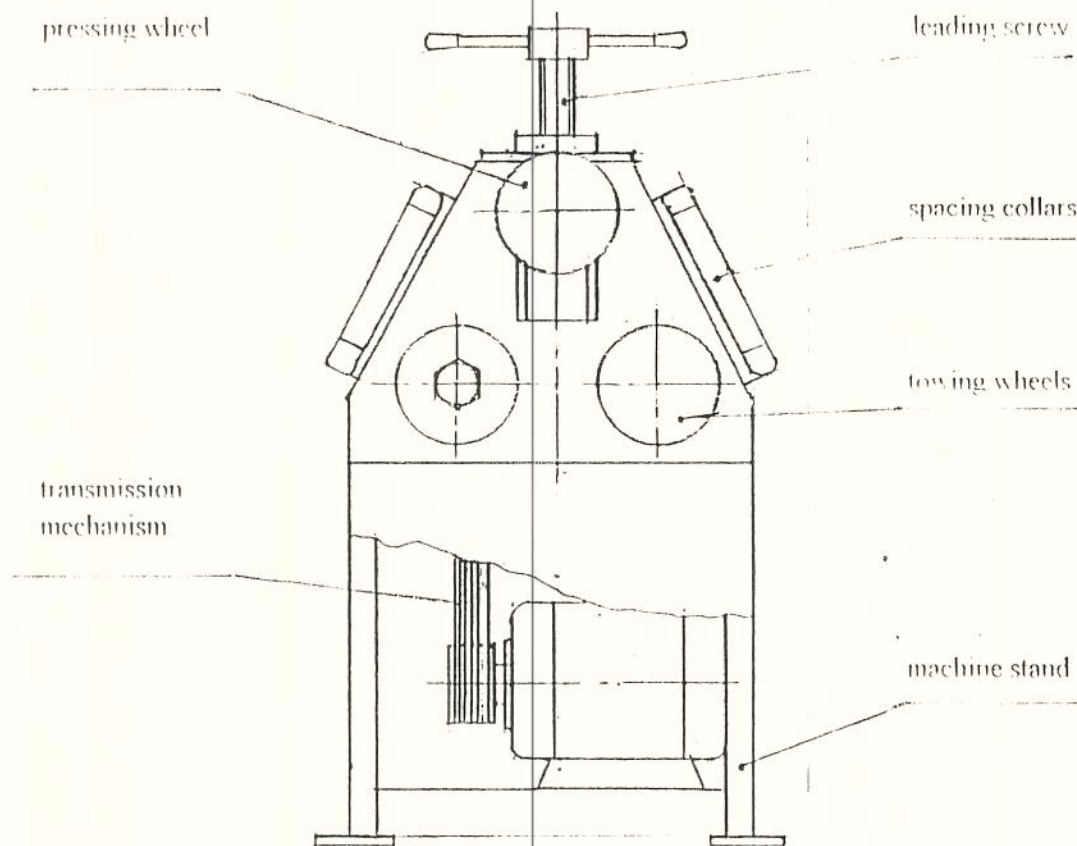

Figure 3 : structure sketch
- (1) Machine stand : it is fitted up with angle steel and steel plate welded together ; on the right side of it there fixed an electric switch (see Figure 3).
- (2) Transmission mechanism : it is composed of one motor , Group A triangle belt , Group A worm gear and worm , and a Group A gear wheel .
- (3) Working installation : it is made of two towing wheels , one pressing wheel and two spacing collars .
- (4) Operation installation : it concludes two things: one is the package of leading screw and slide block which controls the pressing wheel's up-and-down movement ; the other is a pedal electric switch which controls the directions the towing wheels turn .